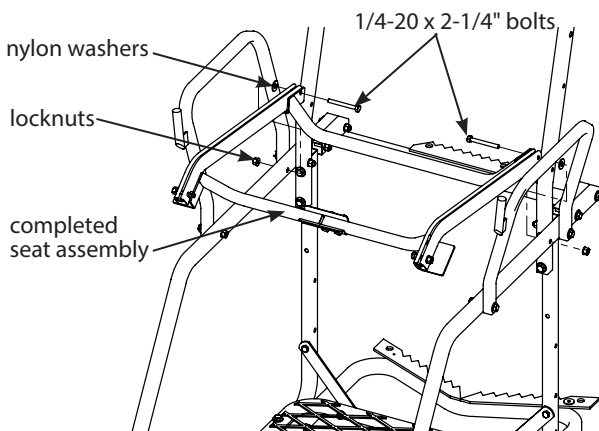

Figure 15
10. Remove the locknuts from the (2) 1/4-20 x 2-1/4" bolts that were previously attached to the rear of the seat assembly. Continue by attaching the seat assembly to the ladder side rails using (2) provided 1/4-20 x 2-1/4" bolts, locknuts and nylon washers. **SEE FIGURE 15.** **Make sure all (4) angle brackets are fully cradling fabric rails.**